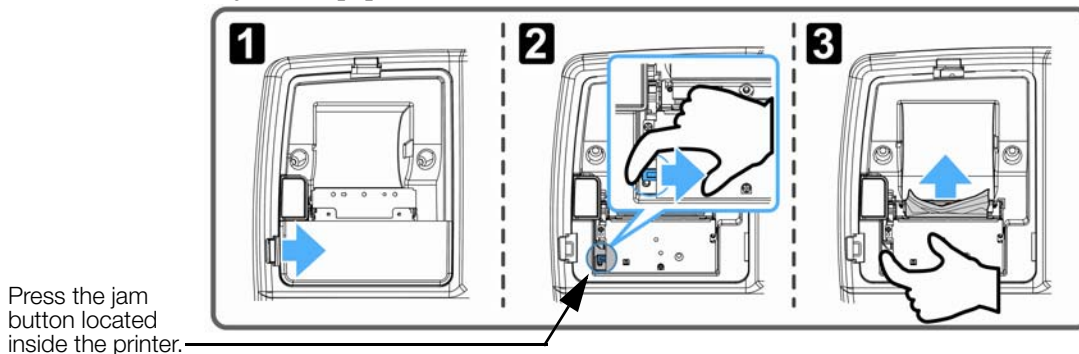

Figure 3-5. Jammed Printer Paper Removal
1. If the thermal paper gets jammed pull the lower printer cover up as shown in Figure 3-5 and press the Jam button located inside the printer.